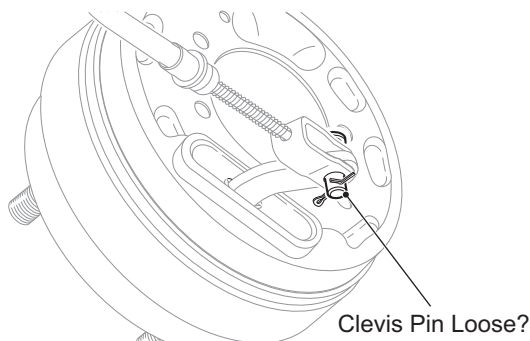

Fig. 18 Check Clevis Pins
10. Check to see that the clevis pins attaching the brake cables to the brake levers are loose. If they are not loose, inspect the system again and correct as required (Ref Fig. 18).